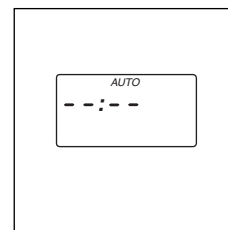

fig. 7
- 6 When set in this way the heater will automatically switch on at the set time for the designated time period and automatically maintain the preset comfort temperature. To cancel a programme, press the “⌚ AUTO” button and then repeatedly press the “hour” buttons until the display shows as fig. 7.